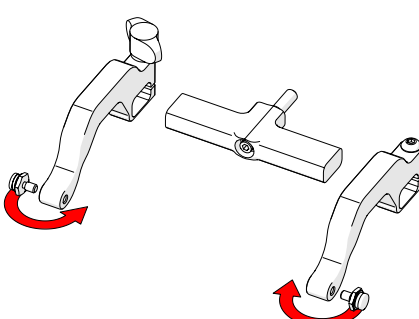

Fig. 182 - Position pivot buttons
5. Position the pivot buttons to the inside of the probe holder arms (Fig. 182).